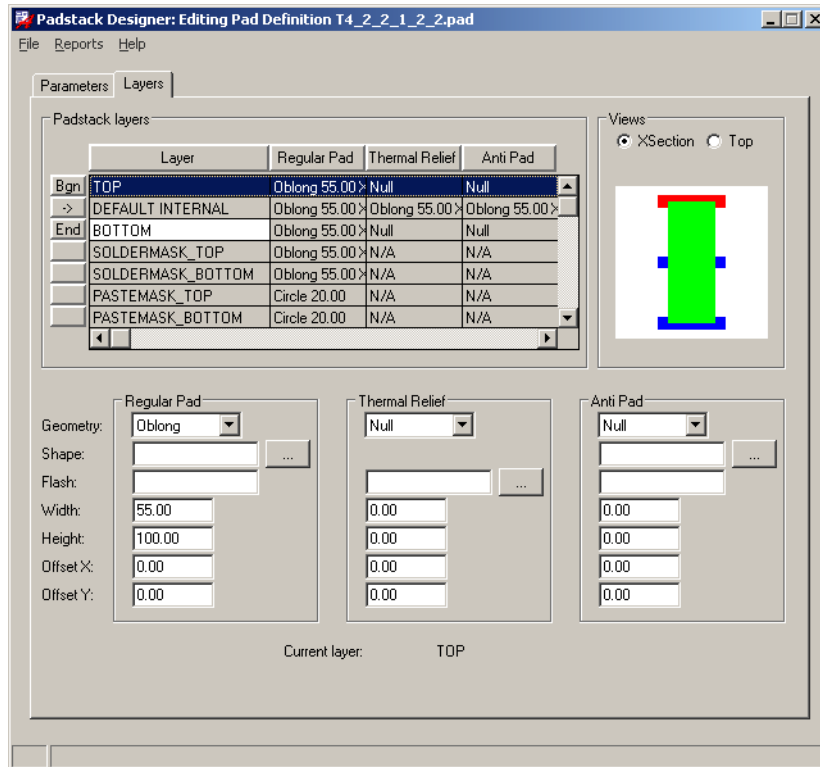

Figure 24. Padstack editor settings with a pastemask to act as a dummy hole.
3. The Layers tab needs the work. See figure 24. I'm not sure what the Thermal Relief and Anti Pad should be, but these settings avoid complaints.